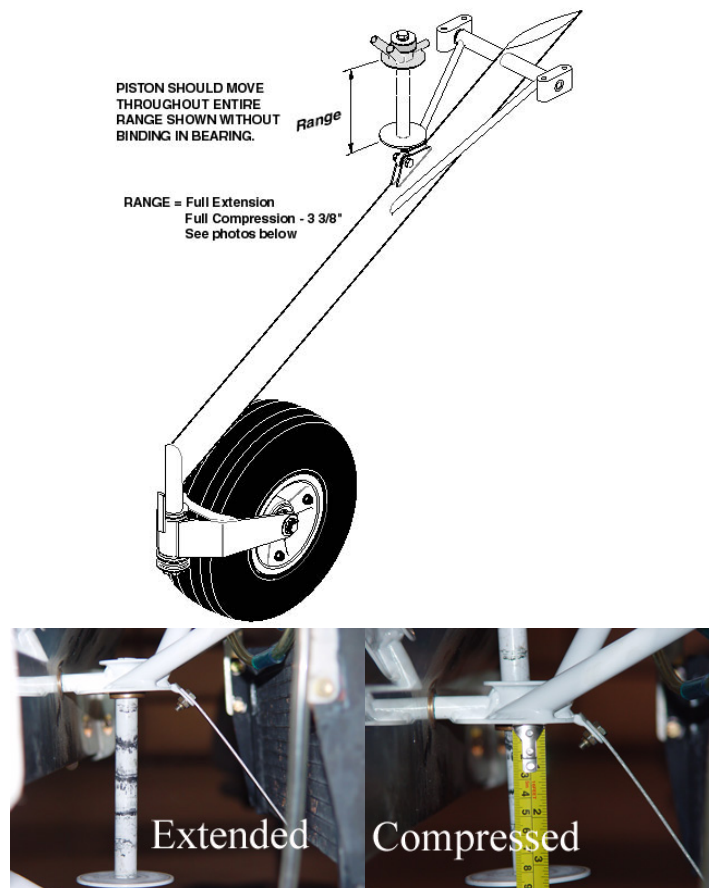

Figure 1
- Using figure 1 as a reference, move the piston & strut assembly through the operating range of the nose gear piston. There should be no binding when the piston is moving in this range. If there is any binding, then additional modification to the piston rod bearing is required per figure 2-1. Continue this process until no binding is present.